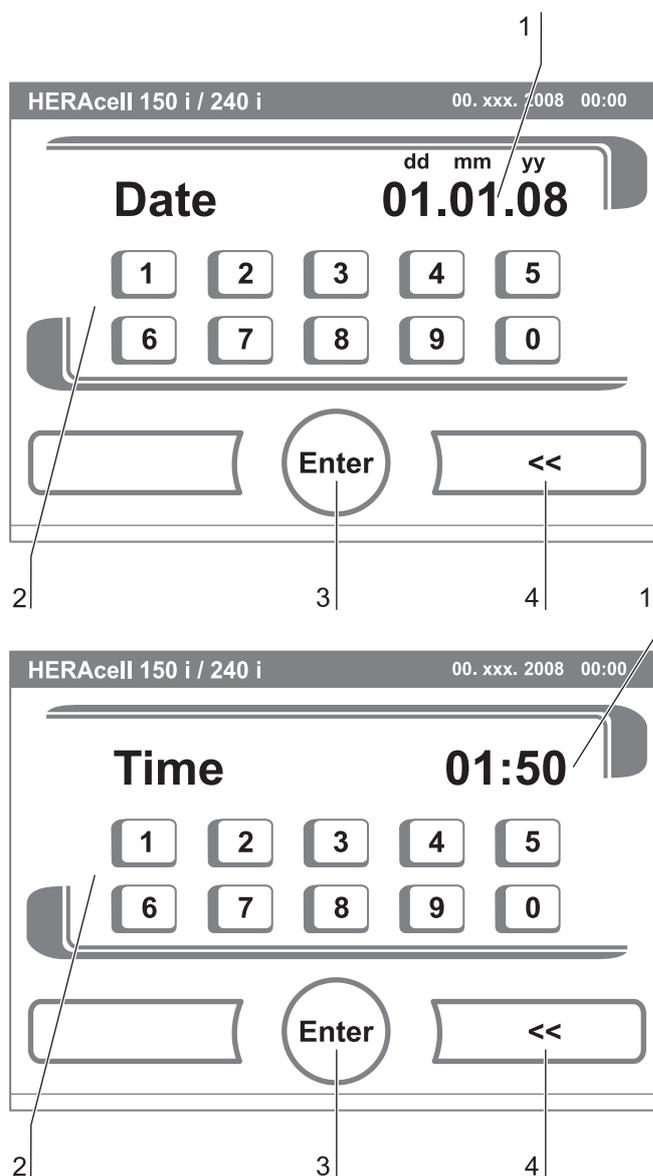

Fig. 42: Date / time setting
1. **Fig. 42:** To enter the date: